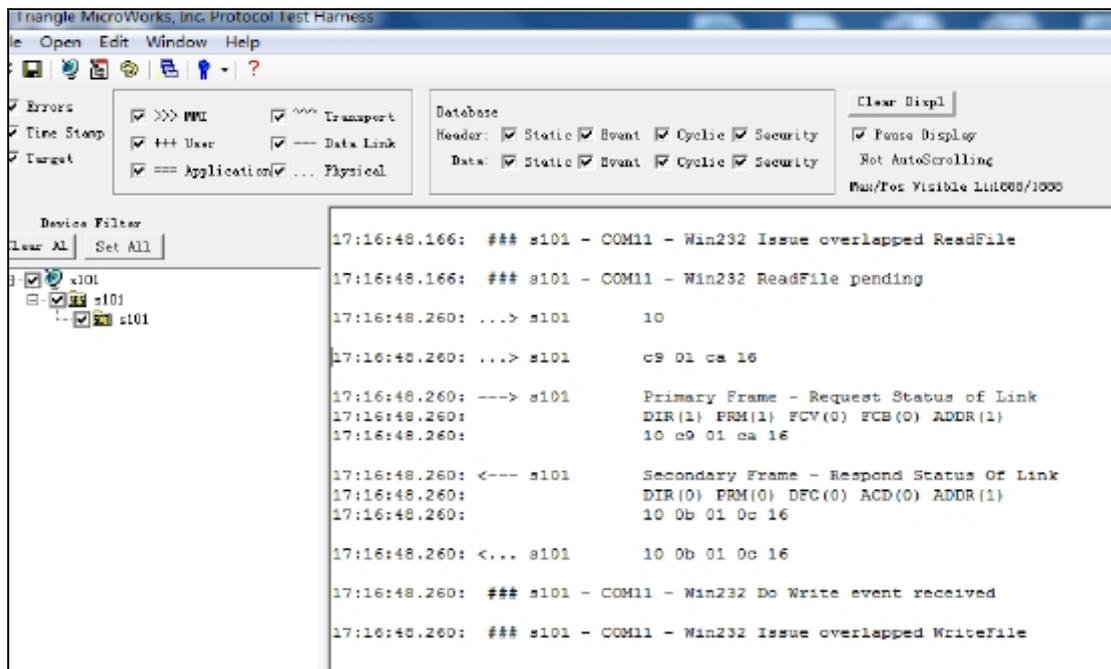

Figure 2-24 Successful configuration log
4) Successful connection log is shown in Figure 2-24.